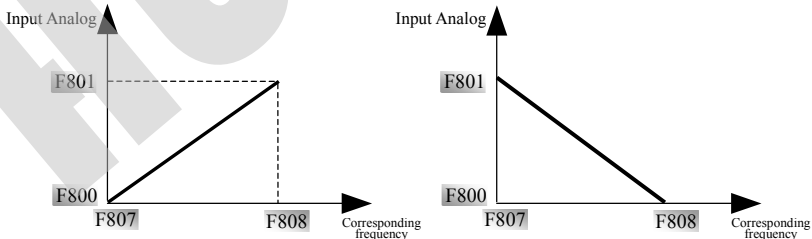

Fig 5-12 Proportion Mode of Analog Adjusting
- The setting values of F807 and F808 decide proportion mode of analog adjustment change, as shown in Fig 5-12: